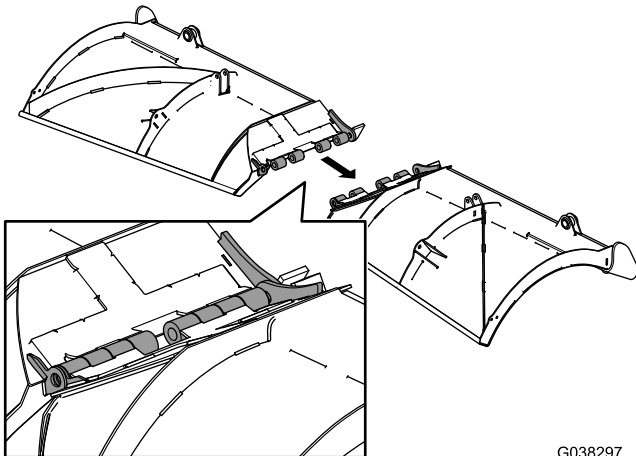

Figure 1
1. Lay the left and right blades face down and bring them together so that the hinges interlock and the cutting edges are even (Figure 1).